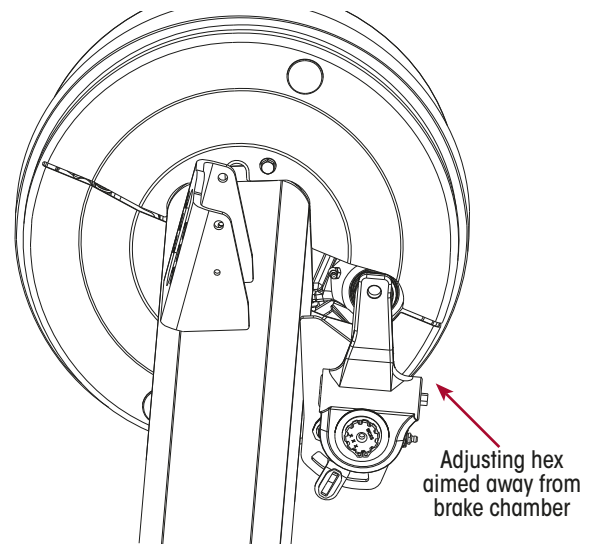

Figure 95: Slack Adjuster Adjusting Hex Position
4. Install brake adjuster onto camshaft with the arm close to the clevis and the manual adjusting hex pointed away from the brake chamber. Refer Figure 95.